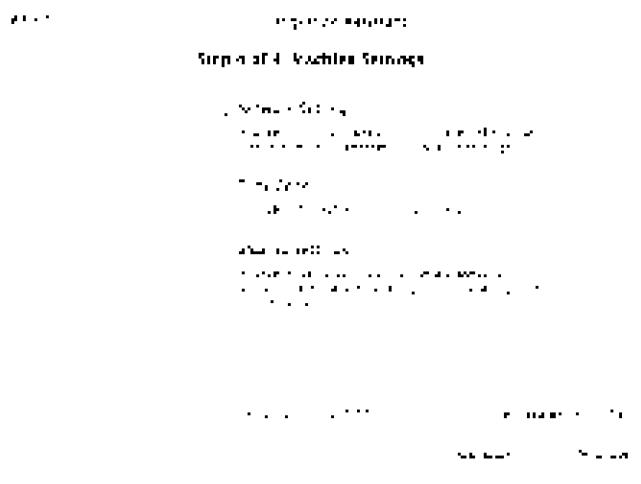

Figure 7-15: Choosing time zone and settings to import in Migration Assistant.
10. Click the Continue button until you get to the Machine Settings dialog, as shown in Figure 7-15.